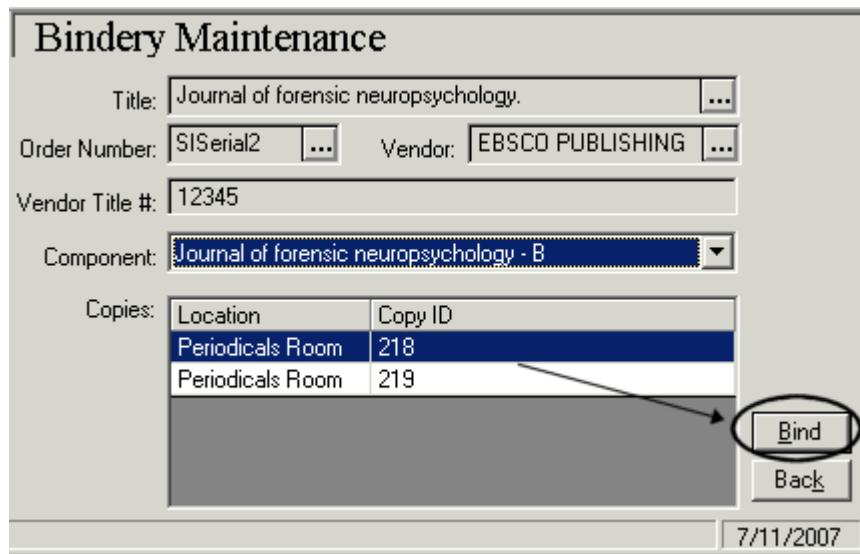

Figure 14-5. Component with multiple copies
5. Select the copy you want from the **Copies** field and click the **Bind** button (see Figure 14-5).